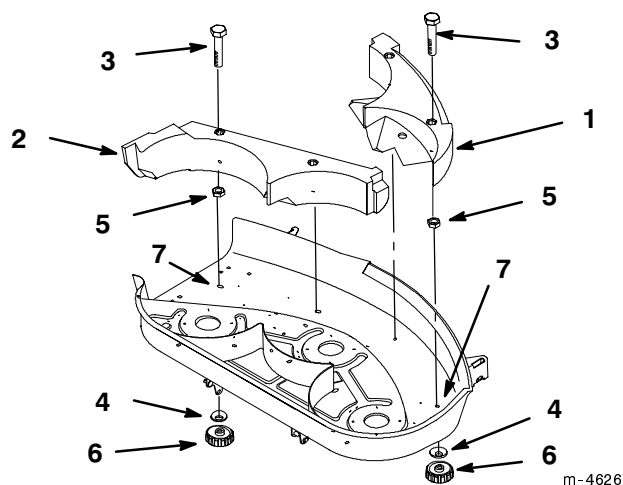

Figure 34
2. Remove the (2) carriage bolts, washers, and locknuts from the slotted holes of the mower (Fig. 34).
3. Thread a 5/16 x 1-1/4" bolt through each baffle as shown in Figure 34, and thread a 5/16" nut on the end of each bolt.